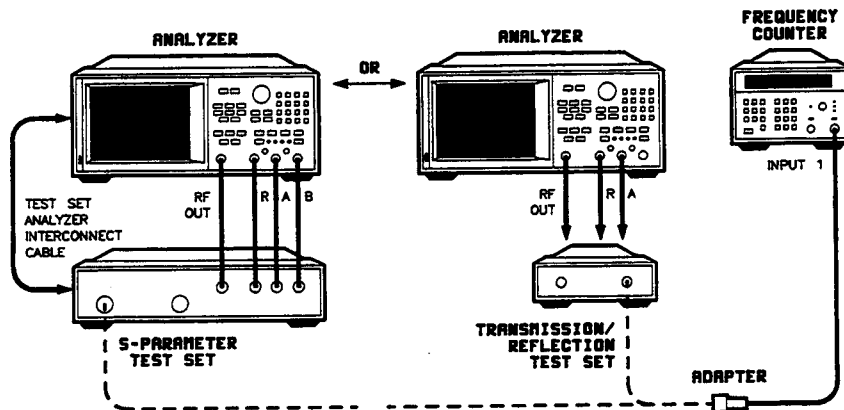

Figure 1. Frequency Range and Accuracy Test Setup
1. Connect the equipment as shown in Figure 1 using the setup containing your test set. An HP 8753B/C Option 006 must be used with the HP 85047A test set. Allow 30 minutes warm-up.